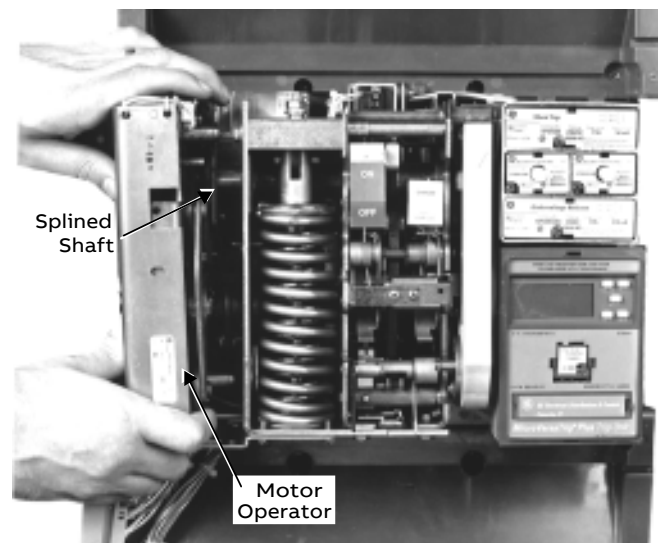

Figure 20. Motor Operator Mechanism aligned with the splined shaft in the breaker.
19. Align the splined closing shaft of the breaker with the splined cutout in the hub of the Motor Operator Mechanism charge arm, as shown in Figure 20.